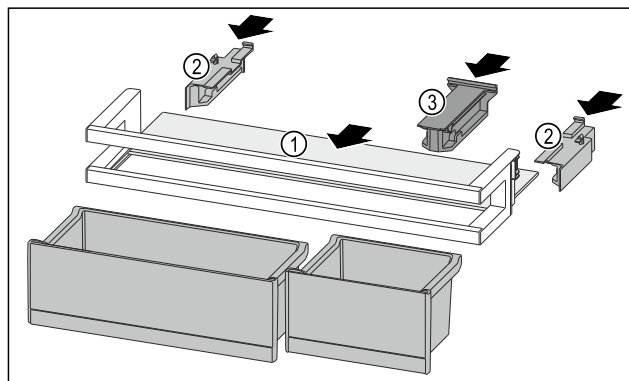

Fig. 87
- ▶ Push the shelf Fig. 87 (1) into the side cutouts.
- ▶ Insert the side parts Fig. 87 (2).
- ▶ Insert the retaining part Fig. 87 (3).